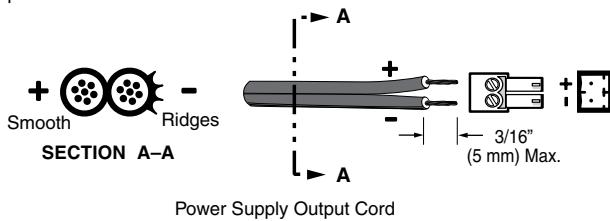

Figure 3. Power Connection
① **Power input** — Wire the power supply as shown in figure 3, and connect it to the power connector.